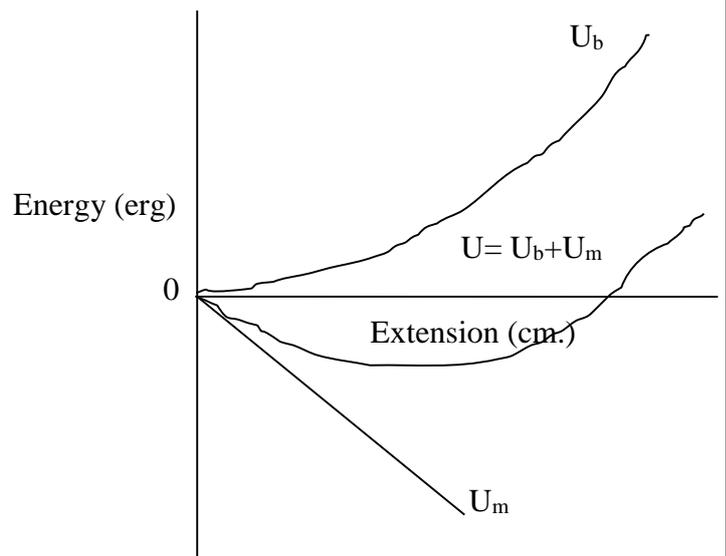

Figure 4
(x) Draw a graph in extension and the corresponding energies i.e, U_b , U_m and U . The graph is shown in the figure 4.
- (1) The force constant of rubber band is a function of extension a in the limit of elasticity. It is observed that the force constant is independent of extension a within the limit of elasticity.
- (2) From Table 2, it is observed that the calculated time periods are the same as experimentally observed time periods.
- (3) U_b , U_m and U versus extension are drawn in the graphs of Figure 4.